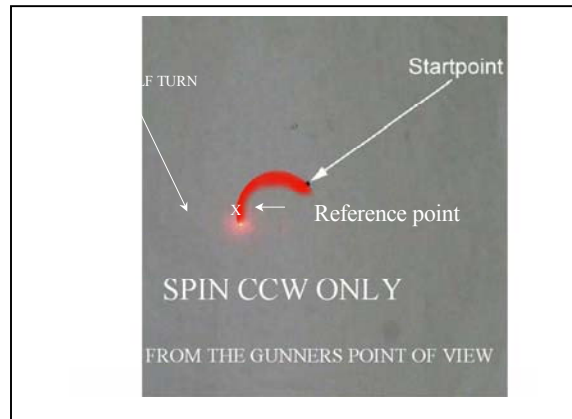

Figure G-4. Example of a start point, half-turn point, and reference point.
(5) *Reference Point*. The reference point is the point that is about half way between the *start point* and the *half-turn* point (Figure G-4).